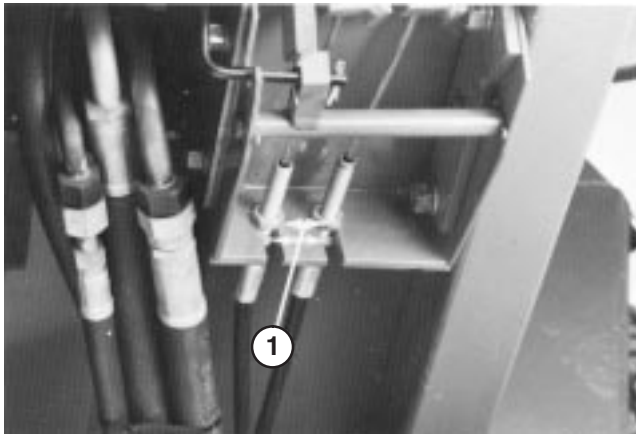

Figure 56
1. To reduce free travel of turn pedals—tighten the brakes—loosen front nut on threaded end of brake cable (Fig. 56). Then tighten rear nut to move cable backward until turn pedals have 1/2 to 1 inch (13 to 25 mm) of free travel. Tighten front nut after brakes are adjusted correctly.